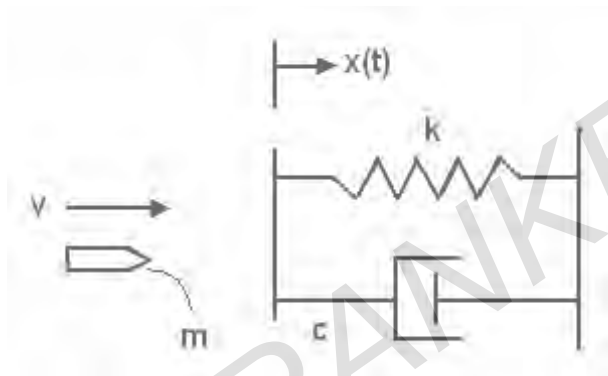

Figure 7
8. A projectile of mass $m = 10\text{kg}$, travelling at velocity $v = 100\text{ m/s}$, hits a board attached to a dashpot of damping co-efficient $c = 400\text{ Ns/m}$, and a spring of stiffness $k = 400000\text{ N/m}$ as shown in the Figure 7. The projectile becomes embedded in the board (of negligible mass) after hitting it.